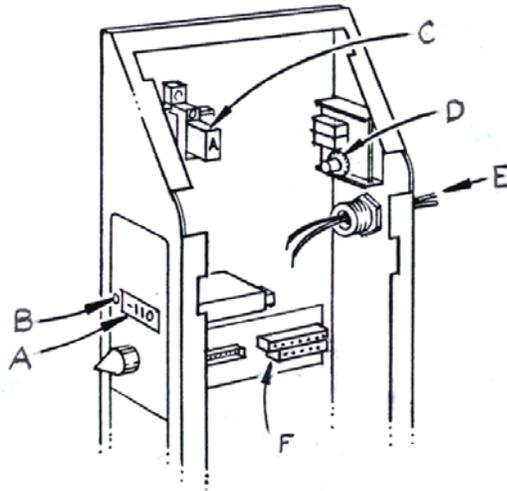
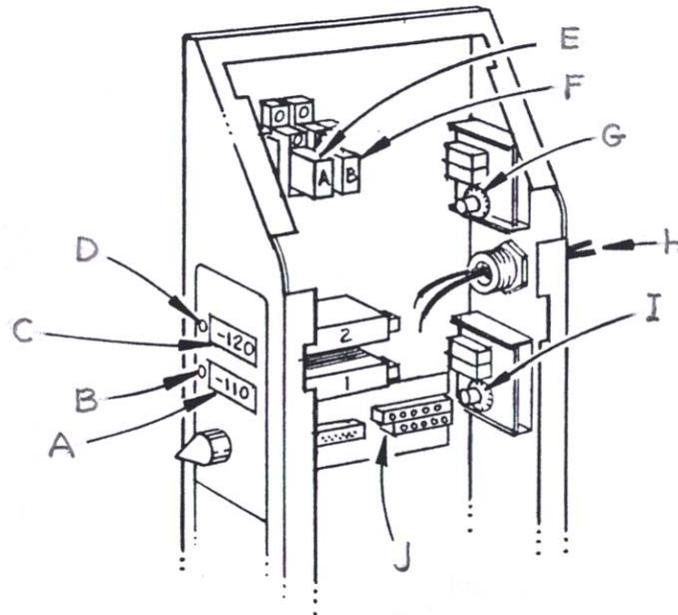

Figure 9-9: Temperature module options—parts identification for option 600212-02
Figure 9-11: Temperature module options—parts identification for option 600212-04
- See Figure 9-9 for identification of options.
- A. Option 600212-02: Setpoint indication, See Figure 9-9.
- C. Option 600212-04: Second temperature meter & two setpoint indications, see Figure 9-11.
Check the operation of the setpoint relay(s) every year if running at less than the recommended minimum current. See Figure 9-9 through Figure 9-11. If it is necessary to replace a relay, refer to the following part numbers.